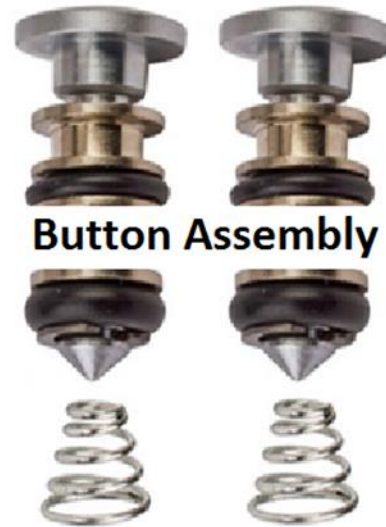

Fig. 1
- When reinstalling the Button Assembly, verify that the Springs are in the orientation shown in Fig. 1 so the large end is to the bottom.